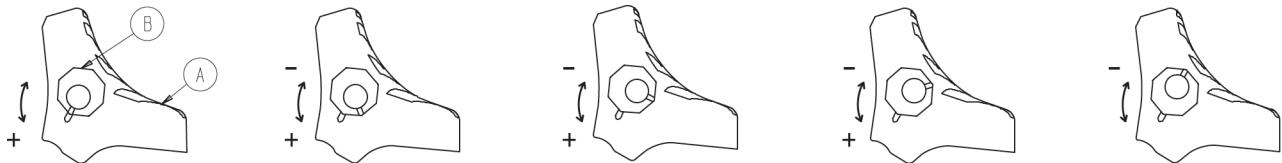

Figure 1 – Wheel locking force adjustment
1. Using a 5/32" hex wrench and 7/16" combination wrench or socket, remove the socket screw from the center of the lock pedal. Save the screw. The wheel lock is initially assembled with the pedal set at the minimum locking force. The marker on the pedal (A) is aligned with the marker on the octagonal sleeve (B) (Figure 1).
2. Remove the octagonal sleeve (B). Rotate the octagonal sleeve counterclockwise to increase the pedal locking force and clockwise to decrease the locking force. Insert the octagonal sleeve into the pedal.